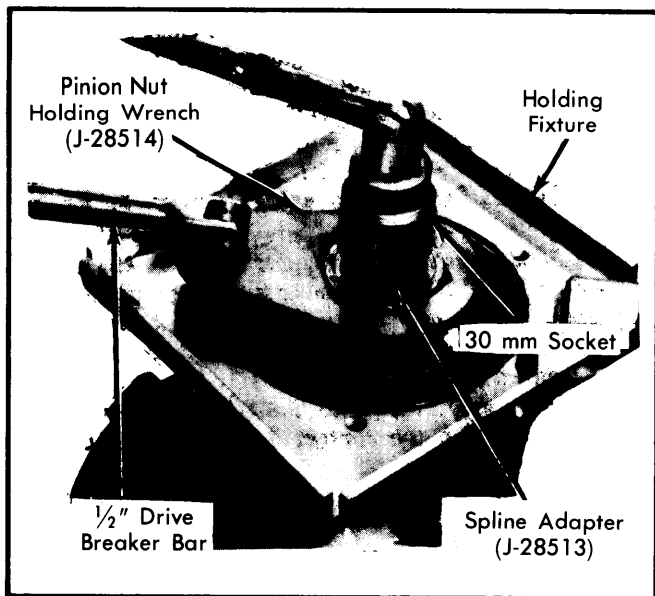

Fig. 6 Removing or Installing Pinion Nut
5) Check pinion bearing preload using spline adapter (J-28513) and $\frac{3}{8}$ " drive torque wrench. Record reading. To remove pinion nut, install nut holding wrench (J-28514) to hold nut while turning pinion CLOCKWISE with spline adapter (J-28513). Remove pinion by threading original nut partially onto pinion to protect threads and tap with hammer to free pinion. See Fig. 6.
2) Using spline adapter (J-28513) and holding wrench (J-28514), tighten pinion nut until end play begins to be taken up. (Turning spline adapter COUNTERCLOCKWISE tightens nut). See Fig. 6. When no further end play is felt, use spline adapter and $\frac{3}{8}$ " drive torque wrench to check preload. Continue tightening nut and checking preload until specified preload is obtained.